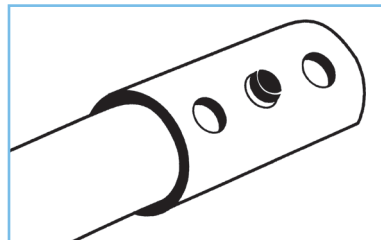

figure 2
1. Before use, adjust height of each leg to your specific needs, making sure all legs are at the same height. When desired height is reached, lock legs into place by aligning buttons into proper holes, per figure 2.
4. Make certain that the height adjusting snap buttons fully protrude through the same respective hole of each leg extension. This will ensure that the leg extensions are securely locked in position and an even height is achieved (see Figure 2).